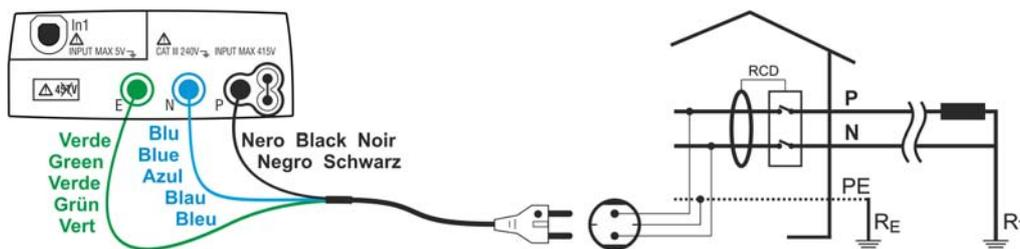
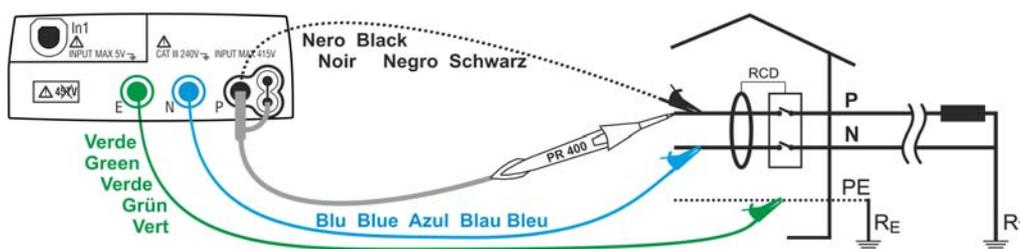
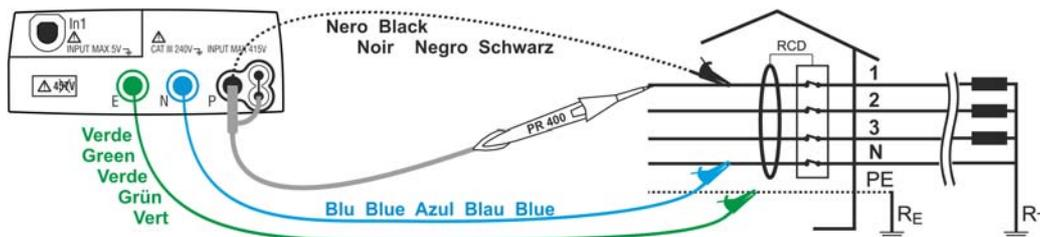

Fig. 20: Instrument connection for 230V single-phase or double-phase P-PE fault loop impedance measurement through shuko cable
Fig. 21: Instrument connection for 230V single-phase or double-phase P-PE fault loop impedance measurement through single cables and remote probe
Fig. 22: Instrument connection for 400V + N + PE three-phase P-PE fault loop impedance measurement through single cables and remote probe
- Insert the green, blue and black connectors of the three-pin shuko cable into the corresponding input leads E, N and P of the instrument. As an alternative, use the single cables and apply the relevant alligator clips to the free ends of the cables. It is also possible to use the remote probe by inserting its multipolar connector into the input lead P. Connect the shuko plug, the alligator clips or the remote probe to the electrical mains according to Fig. 20, Fig. 21, Fig. 22 and Fig. 23.